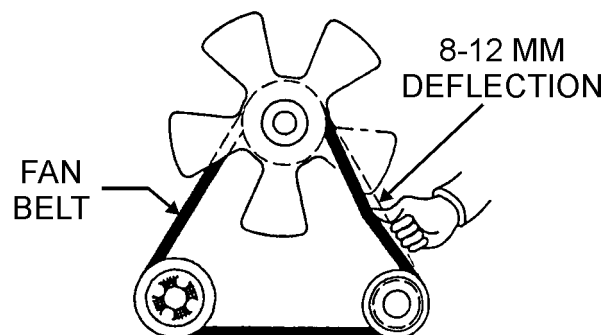

Figure 15. V-Belt Tension
4. Check the V-belt tension (Figure 15) by pushing midway through the two pulleys. The V-belt deflection should be between .300 and .472 inches (8 to 12 mm).